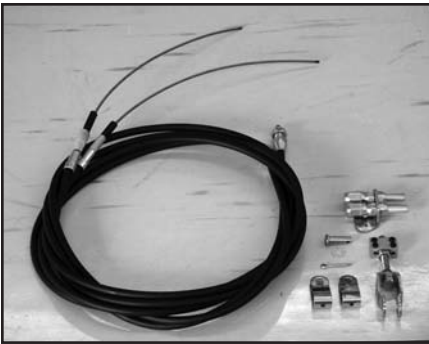

Figure 1
- Uncoil parking brake cable and lay out flat, Figures 1 and 2.